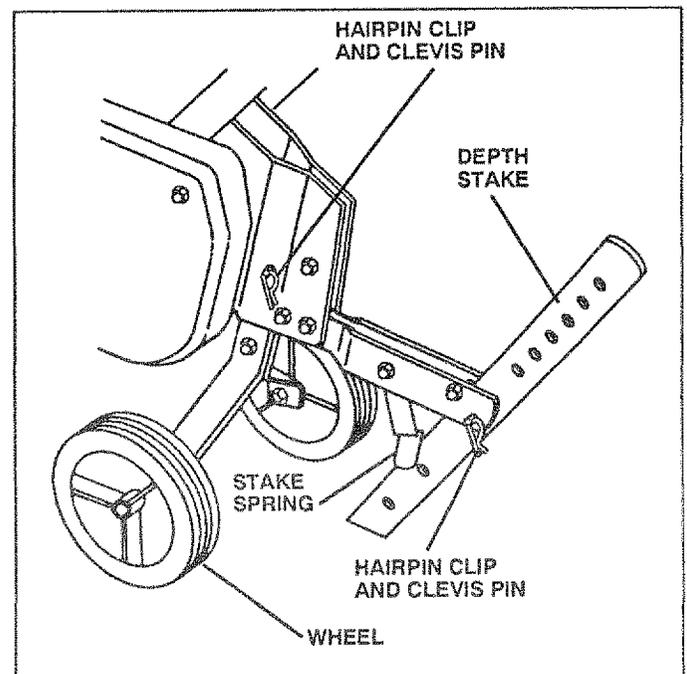

FIG. 6
DEPTH STAKE (See Fig. 6) -
WHEELS (See Fig. 6) -
- Tip depth stake forward until it is held by the stake spring (See Fig. 6).